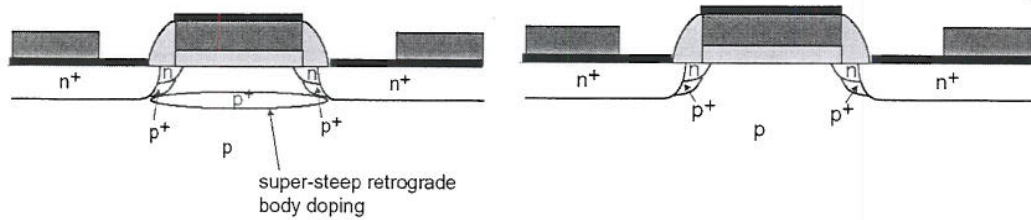

Figure 3: Left: the material cross section of a Si MOSFET with a retrograde well. Right the same Si MOSFET but without retrograde well doping.
- c) Fig. 3 gives the cross section of two identical MOSFETs apart from the retrograde well. [2]